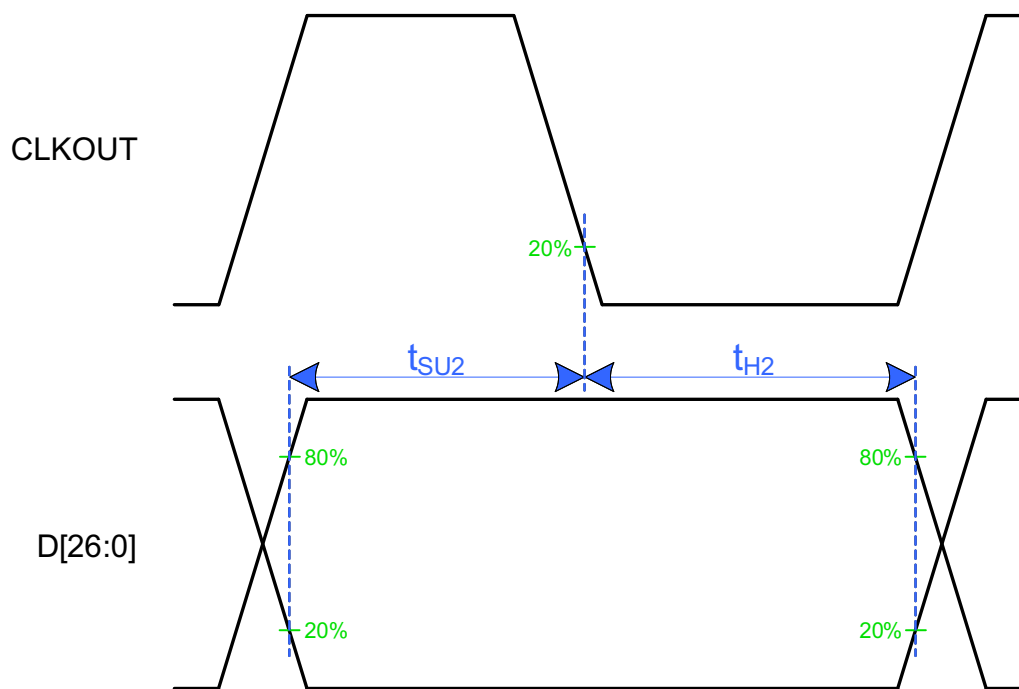
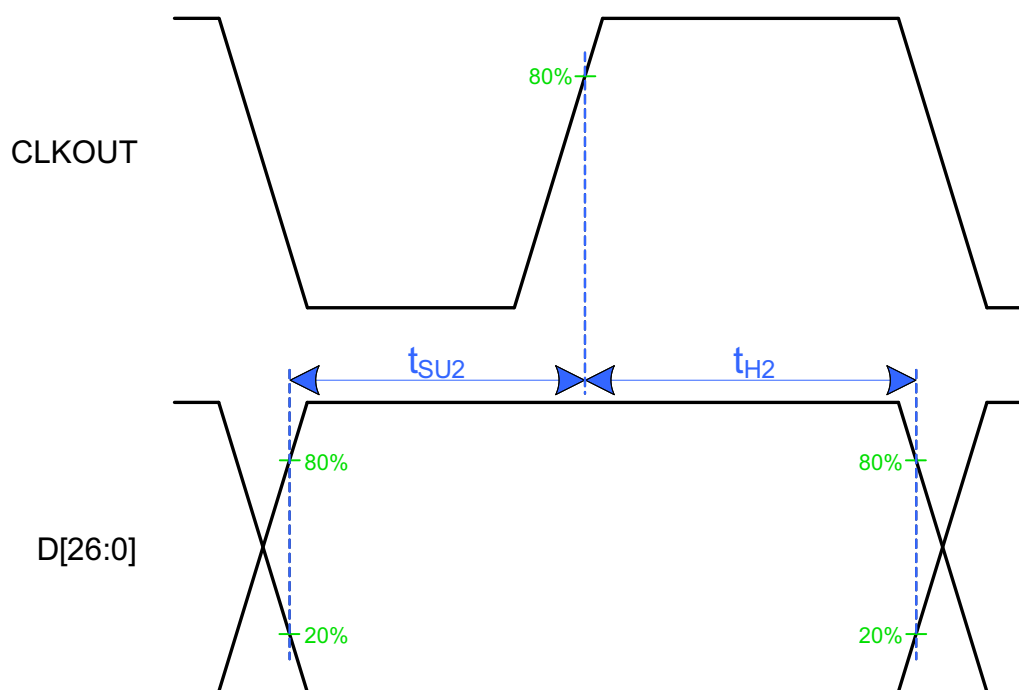

图 3. CMOS Output Timing (CLKPOL = Low)
图 4. CMOS Output Timing (CLKPOL = High)
- (1) The PLL bandwidth describes the typical highest modulation frequency that can be tracked. If the LVDS transmitter device generates a spread spectrum, the LVDS clock and data must stay synchronized throughout modulation. The SN65LVDS822 will track and pass through modulation, and the downstream CMOS receiver must be able to track it.
- (2) Receiver Input Skew Margin ( $t_{RSKM}$ ) is the timing margin available for transmitter output pulse position ( $t_{PPOS}$ ), interconnect skew, and interconnect inter-symbol interference.  $t_{RSKM}$  represents the remainder of the serial bit time not taken up by the receiver strobe uncertainty. The  $t_{RSKM}$  assumes a bit error rate better than  $10^{-12}$ .
- (3)  $t_{RSKM}$  is indirectly proportional to: internal setup and hold time uncertainty, ISI, duty cycle distortion from the front end receiver, skew mismatch between LVDS clock and data, and PLL cycle-to-cycle jitter.
- (4) LVDS input timing defined here is based on a simulated statistical analysis across process, voltage, and temperature ranges.
- (5) See Figure 3 and Figure 4.